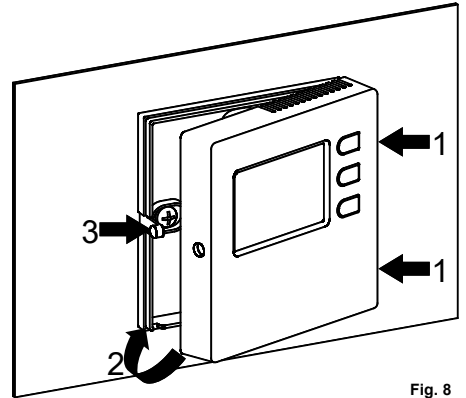

Fig. 8
- Close the left side of the cover while slightly pressing with a finger, at the same time, the plastic tooth on the left side to the internal (see the arrow in Fig. 8). Complete the rotation of the cover until the plastic tooth on the base snaps into the relevant hole of the cover.